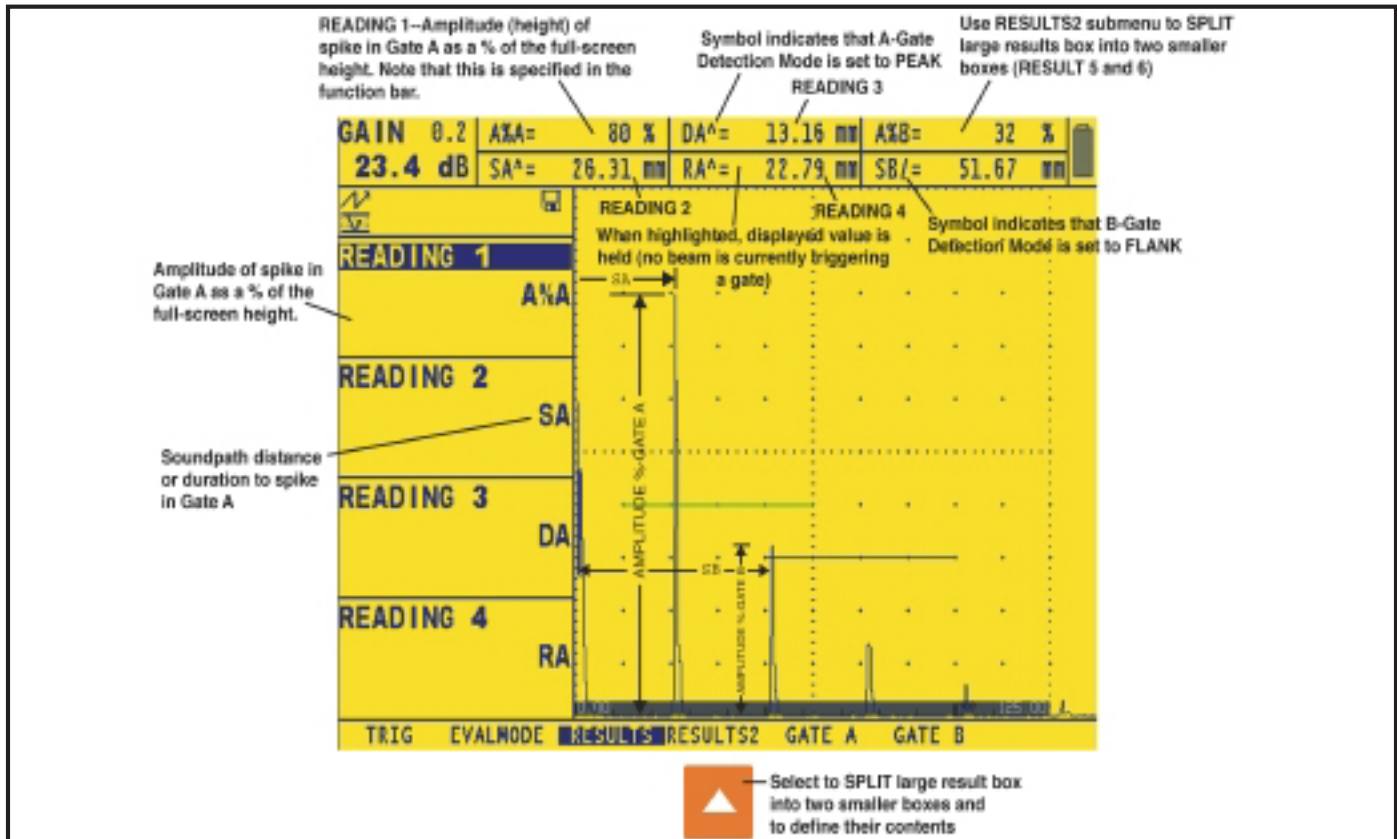

Figure 52: The RESULTS submenu is used to specify which measured values to display.
*Note: The detection method chosen will be reflected by a small icon. This icon is displayed in the display box containing the measured reading, and in the options offered in the READING 1 through 6 function boxes (see Figure 52).*
The measured readings can be displayed in any of the up-to-six small reading boxes at the top of the display screen. Note that when four small results are shown, another result can be displayed in the large reading box (see Figure 52 on the next page).